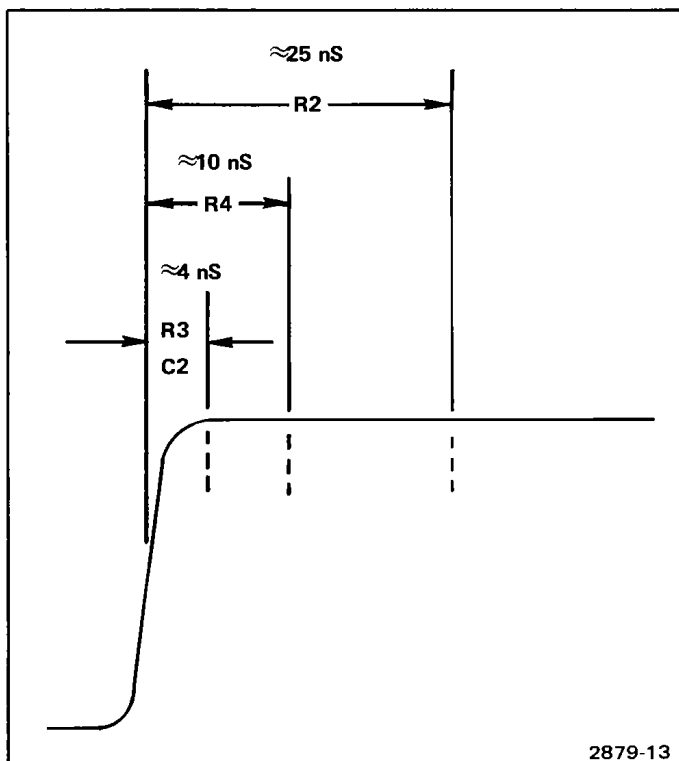
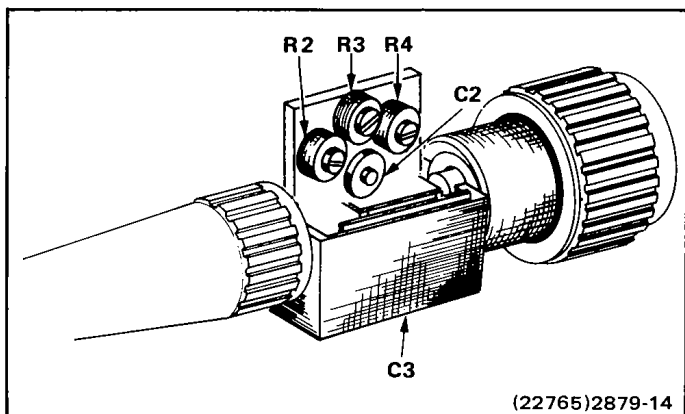

Fig. 11. High-frequency adjustments, relative to areas of the waveform that are affected by each adjustment.
Fig. 12. High-frequency adjustment locations in the 1-meter cable length P6106.
r. ADJUST—R2 and R4 for best overall flat response. See Fig. 11 for details of area on waveform affected relative to each adjustment. Figures 12 and 13 show locations of adjustments in the 1-meter, 2-meter, and 3-meter length probes, respectively.
s. ADJUST—R3 and C2 for best corner response (without ringing). See Figs. 11, 12, and 13.